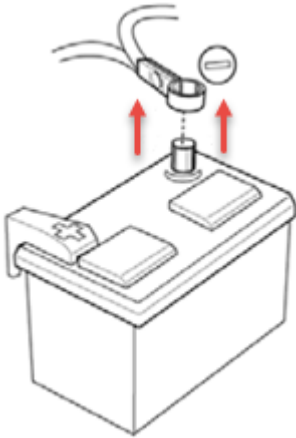

Figure 1
1. Disconnect the negative battery cable. Isolate the cable with protection in place. Figure 1.